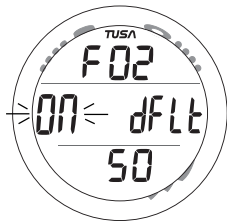

Fig. 35 - SET FO2 DEFAULT
**Set FO2 50% Default** information includes (Fig. 35):